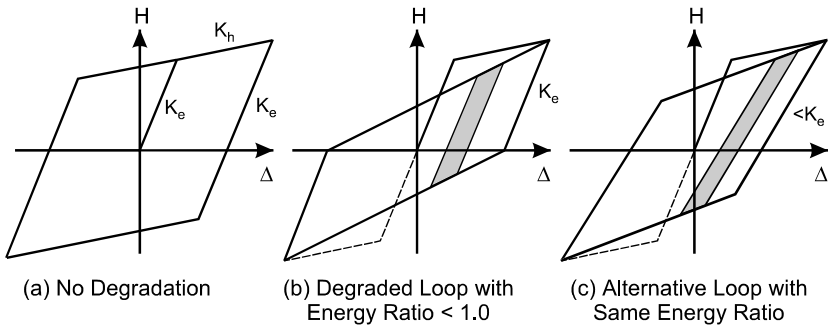

Figure 28.11 Hysteresis Loops
Figure 28.11 shows three hysteresis loops for a simple structure. If there is no stiffness degradation, the loop might be as shown in Figure
28.11(a). In most cases, however, there will be stiffness degradation, and the loop might be as shown in Figure 28.11(b) or (c).
For the loop in Figure 28.11(a) the energy ratio is 1.0. For the loop in Figure 28.11(b) the energy ratio is 0.5 for all ductility ratios if $K_h = 0$. If $K_h > 0$ the ratio increases somewhat as the ductility ratio increases. The loop in Figure 28.11(c) also has an energy ratio of about 0.5. There are many possible loops that give the same energy ratio. Other ratios can be obtained by changing the details of the loop.
The energy ratio applies for full amplitude deformation cycles. The shaded bands in Figure 28.11 show loops for small amplitude cycles. If the energy ratio for a small amplitude cycle is the ratio of the degraded area to the non-degraded area for the same deformation range, this ratio is not necessarily the same as for a full amplitude cycle. Also, it is not the same in Figures 28.11(b) and (c). This illustrates the inherent difficulty in accounting for stiffness and energy degradation.
- (1) In the FEMA 356 Coefficient Method, the coefficient C_2 depends on whether the structure degrades. For a degrading structure, C_2 also depends on the performance level (Immediate Occupancy, Life Safety or Collapse Prevention), increasing from the IO to the CP level. In effect, this means that the energy ratio decreases as the ductility ratio increases, but the relationship is not explicitly specified.
- (2) The FEMA 440 Coefficient Method is calibrated for certain hysteresis loops, two of which are those in Figures 28.11(a) and (b). The equations for C_2 are different in the non-degrading and degrading cases.
- (3) The FEMA 440 Linearization Method is calibrated for certain hysteresis loops, two of which are those in Figures 28.11(a) and (b), with different calibration equations for the non-degrading and degrading cases.
- (4) In the ATC 40 Capacity Spectrum Method the damping ratio is calculated at the trial point, using Equation 3.19. The energy ratio depends on the non-degraded energy and the structure behavior type (Type A, B or C). The energy ratios are specified by ATC 40.